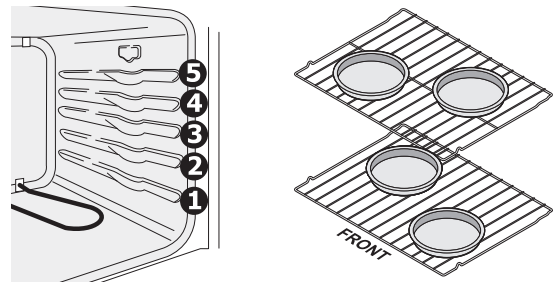

Figure 5: Rack positions (L) and pan spacing (R)
- When baking cakes using two racks, place bakeware on oven rack positions 2 and 4 and position cake pans as shown in Figure 5.
1. Arrange racks when oven is cool (Figure 5).